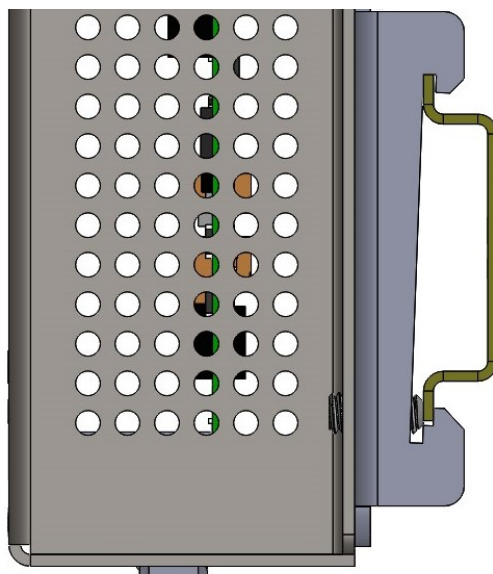

Figure 11. Set screw tightening against DIN rail
8. Finally, tighten set screws against DIN rail, as shown in Figure 11, to 12 in·lbs.